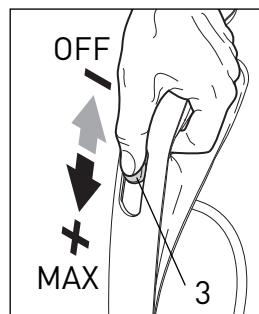

Figure 5
4. Slide the On/OFF switch (3) downward toward the MAX position - see figure 5.
Operating the Power Head - Figures 5, 6, 7, 8 & 11
C. You may adjust the suction control with the suction control slider (3, figure 5) as you vacuum different surfaces or when using the accessory tools. For optimal cleaning and brushing, operate the machine at the maximum suction power setting and push the power head slowly over the carpet.
To change a *floor tool* or *power head*, switch off the power and unplug the vacuum. Press the tool release button (14) and pull the vacuum out of the swivel neck (20). Insert the vacuum into the new tool and push down gently until it snaps into place. Plug the vacuum in and switch the power on. You may adjust the suction control with the suction control slider (3, figure 5) as you vacuum while using the power head or when using the accessory or floor tools.